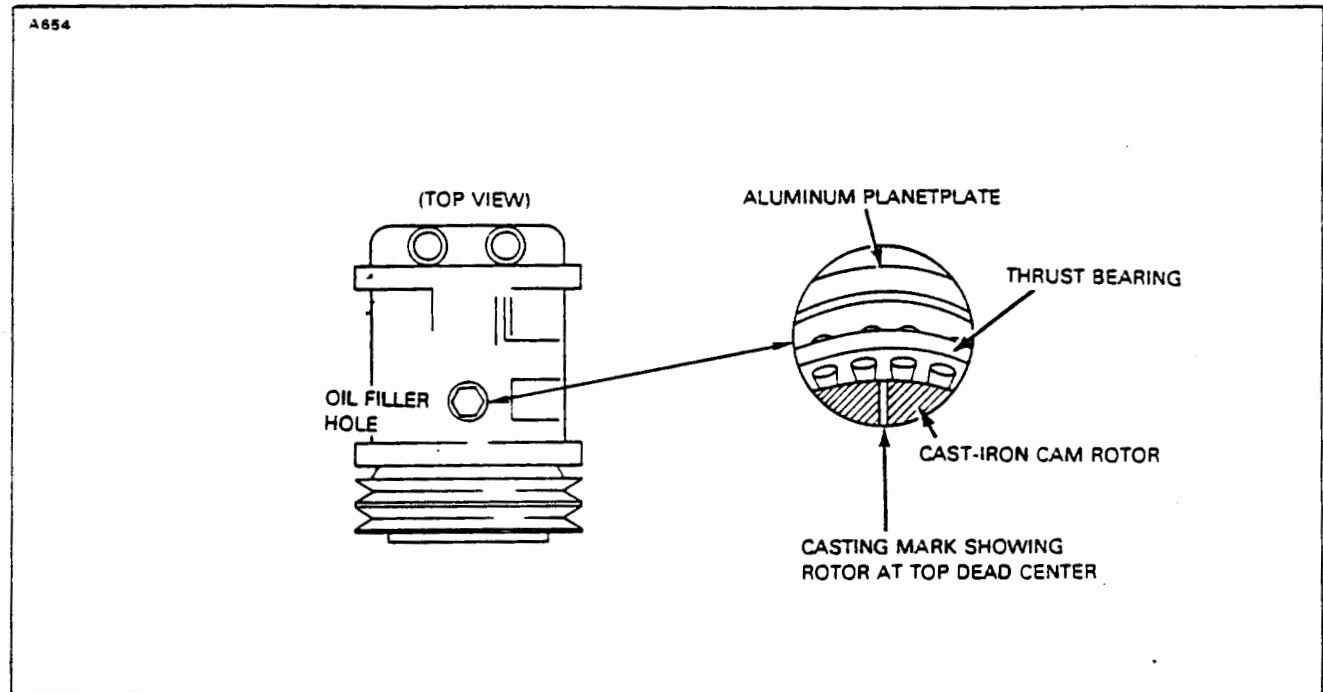

Figure 21-31. Top Dead Center Casting Mark (Sankyo Compressor)
4. Position the rotor to top dead center (Refer to Figure 21-31 by rotating the clutch front plate until the casting mark is visible in the center of the hole.